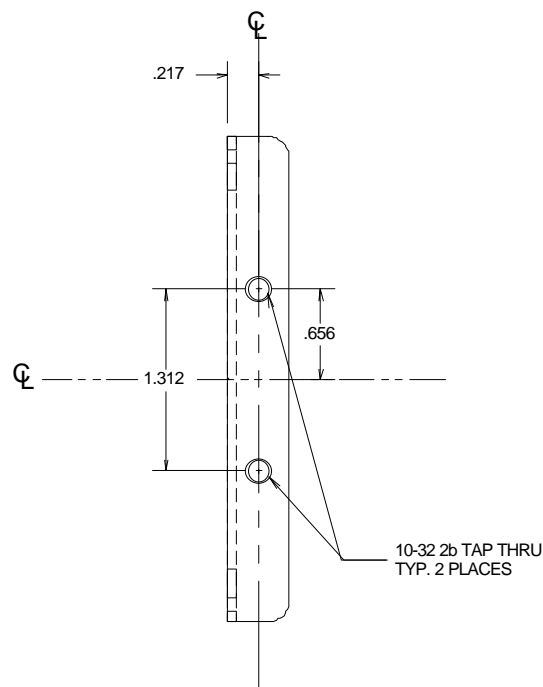
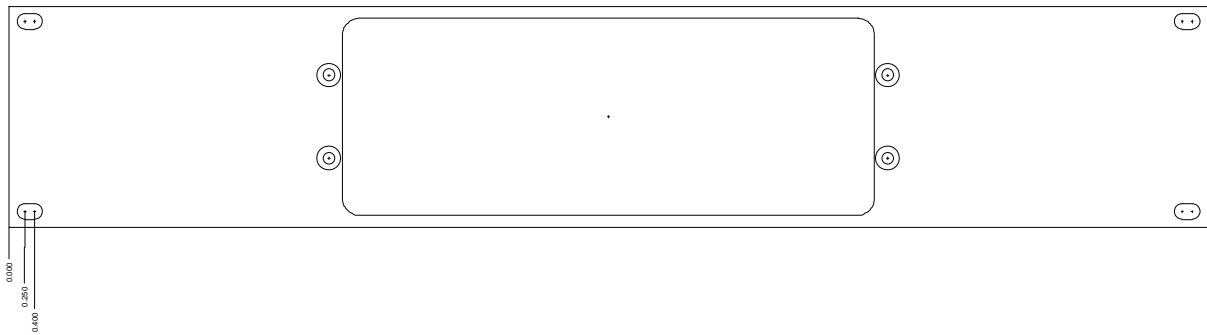

Figure 1: One of the two tapped front enclosure housing bezels, part #: MPC1-18001.
Figure 2: Rack-mount mounting frame, part #: MPC1-18002.
Below are two figures (Figure 1 and Figure 2) showing two of these parts.
The first is the tapped front housing bezel, Figure 1, in place of the existing untapped bezels. Since it requires the removal of the top and bottom covers, installing these is done at the factory. The standard desktop version of the MPC1's front housing bezels does not have the pair of tapped mounting holes (#10-32) displayed in Figure 1.
The mounting frame, shown below in Figure 2, is 1/8" thick, 3½" wide, and 19" long. With the tapped front enclosure housing bezels replacing the stock bench-top bezels, the front panel of the MPC1 mounts through the center of the opening and secured with two pair (4) #10-32 flat-head Phillips stainless-steel machine screws.